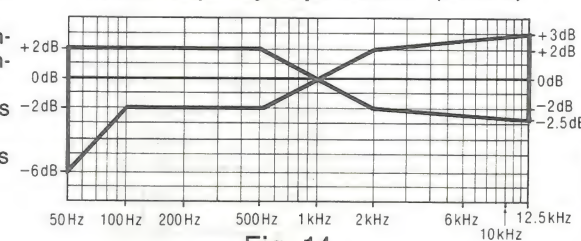
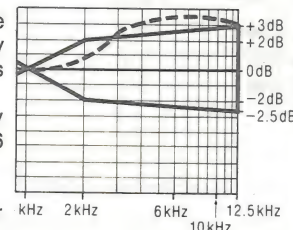
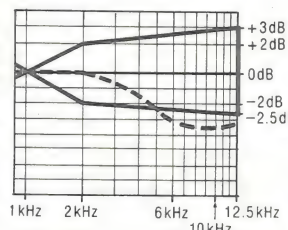

Fig. 14
Fig. 15
Fig. 16
6. Playback the signals recorded in step 6, and check if the frequency response curve is within the limits shown in the overall frequency response chart for normal tapes (fig. 14).
When the curve exceeds the overall specified frequency response chart (fig. 14) as shown in fig. 15.
- 2) Repeat steps 5 and 6 for confirmation (Proceed to steps 7, 8 and 9 if the curve is now within the charted specifications as shown fig. 14.)
- 3) If the curve still exceeds the specifications (fig. 14), increase bias current further and repeat steps 5 and 6.
When the curve falls below the overall specified frequency response chart (fig. 14) as shown in fig. 16.
- 3) If the curve still falls below the charted specifications (fig. 14), reduce bias current further and repeat steps 5 and 6.